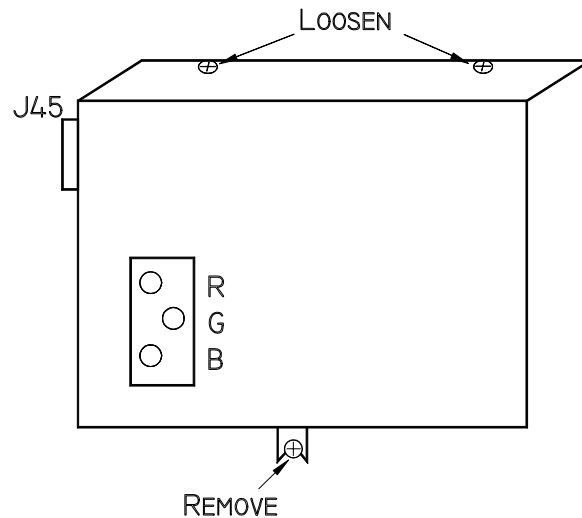

Figure 4-7. High Voltage Power Supply cover.
2. Remove the High Voltage Power Supply cover (*Figure 4-7*) by removing the pozidrive screw that secures the HVPS at the bottom of the cover and loosening the 2 pozidrive screws at the top of the cover and
3. Remove the two pozidrive screws from the top of the High Voltage Power Supply (HVPS) cover (*Figure 4-7*) and remove the one screw at the bottom of the cover and loosen the two screws at the top of the cover.